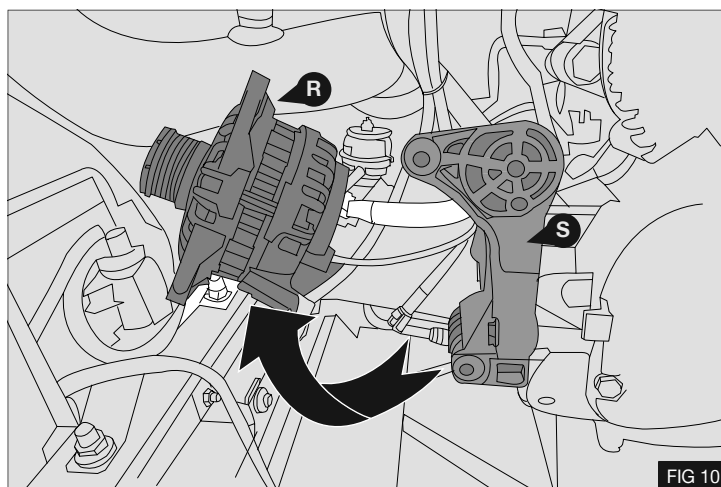

FIG 10
20. Disconnect the alternator (R) from its bracket and place to one side - Fig 10
21. Remove and discard the original alternator mounting bracket (S) and its fasteners - Fig 10